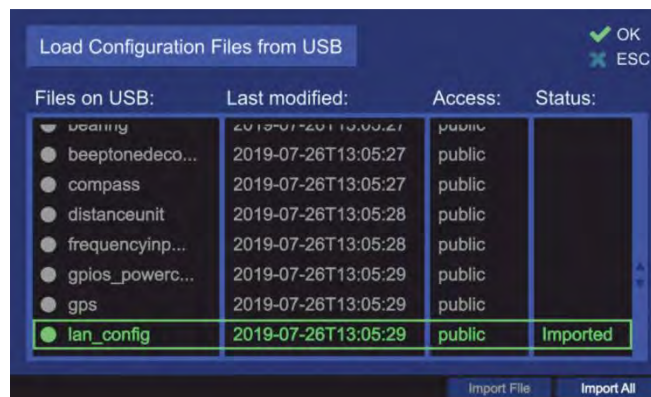

Figure 140. File imported
- The hotkey “Import File” is only visible, if a valid configuration file is marked. Pressing this hotkey will start importing the marked configuration file from the USB flash drive. After successful import of the file, the hotkey name becomes gray (s. Figure 140).